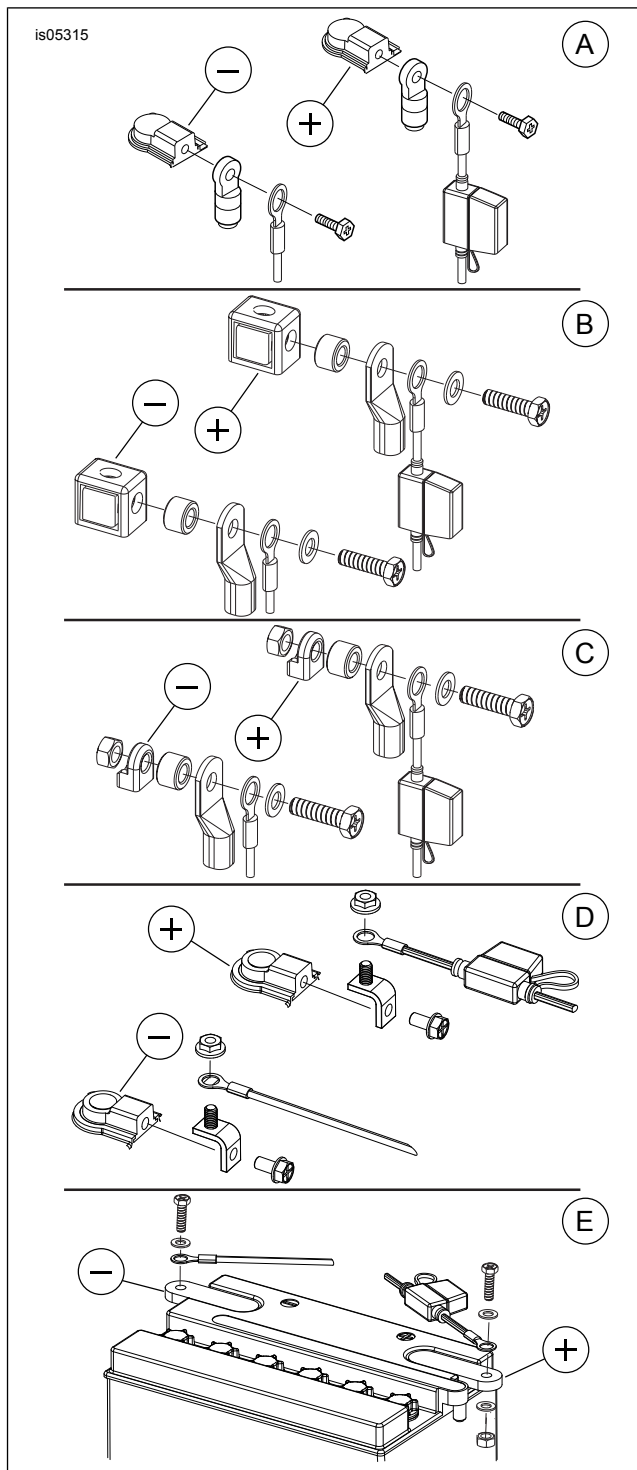

Figure 1. Battery Connection Types
Several variations of battery terminals and connecting hardware have been used over the years on Harley-Davidson motorcycles. Refer to Figure 1 to determine the terminal and hardware type used on your battery.
1. See Figure 1. Read the owner's manual to remove the seat and any other components necessary to access to the battery. Save hardware for installation.
2. Refer to the correct view in Figure 1 for your model. Break the battery negative connection by removing the hardware assembly from the negative battery terminal. Save hardware for installation.
10. Refer to the view in Figure 1 used for disassembly. Install the positive (red) ring terminal (E) on the positive battery post in the sequence shown. Tighten the positive terminal post bolt to the value shown in the owner's manual.
11. Attach the negative (black) lead of the ring terminal (D) to the negative battery post in the sequence shown. Tighten the negative terminal post bolt to the value shown in the owner's manual.